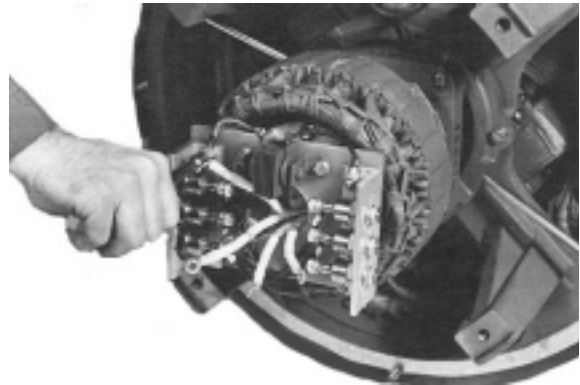

Figure 6-10
1. Note markings and disconnect the main rotor leads coming out of the lead hole of the aluminum standoff plate from the rectifier aluminum angle. (Figure 6-10.)